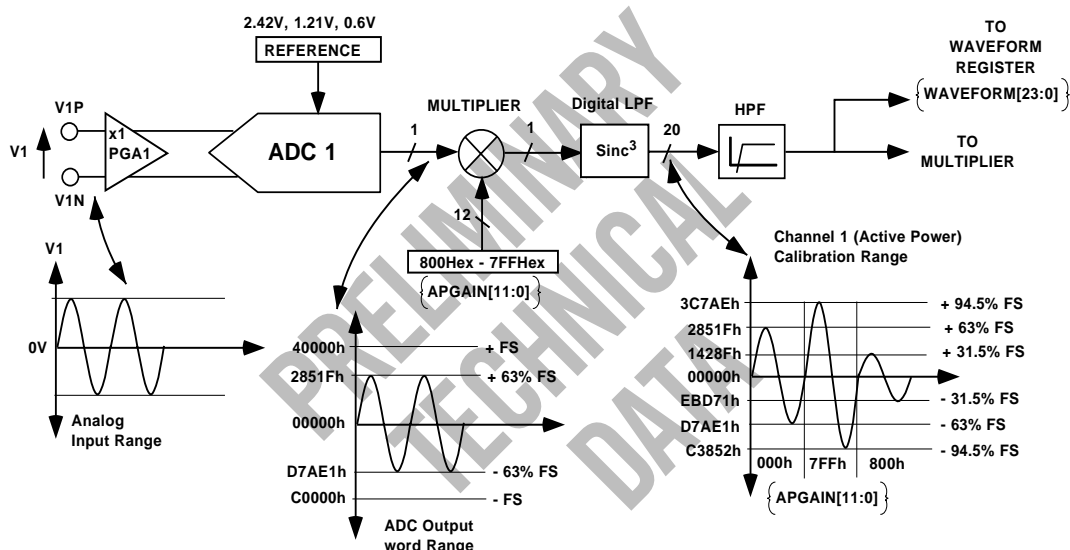

Figure 22 —ADC and signal processing in Channel 1
Figure 22 shows the ADC and signal processing chain for Channel 1. In waveform sampling mode the ADC outputs a signed 2's Complement 20 Bit data word at a maximum of 27.9kSPS (3.579545MHz/128). The output of the ADC can be scaled by  $\pm 50\%$  to perform an overall power calibration or to calibrate the ADC output. While the ADC outputs a 20 bit 2's complement value the maximum full-scale positive value from the ADC is limited to 40000h (+262,144 Decimal). The maximum full-scale negative value is limited to C0000h (-262,144 Decimal). If the analog inputs are over-ranged, the ADC output code will clamp at these values. With the specified full scale analog input signal of 1V (or 0.5V or 0.25V – see *Analog*
*Inputs* section) the ADC will produce an output code which is approximately 63% of its full-scale value. This is illustrated in Figure 22. The diagram in Figure 22 shows a full-scale voltage signal being applied to the differential inputs V1P and V1N. The ADC output swings between D7AE1h (-165,151) and 2851Fh (+165,151). This is approximately 63% of the full-scale value 40000h (262,144). Over-ranging the analog inputs with more than 1V differential (0.5 or 0.25, depending on Channel 1 full scale selection) will cause the ADC outputs to increase towards its full scale value. However for specified operation the differential signal on the analog inputs should not exceed the recommended value.
For example when 7FFh is written to the Active Power Gain register the ADC output is scaled up by 50%. 7FFh = 2047 Dec,  $2047/2^{12} = 0.5$ . Similarly, 800h = -2047 Dec (signed 2's Complement) and ADC output is scaled by -50%. These two examples are illustrated graphically in Figure 22.